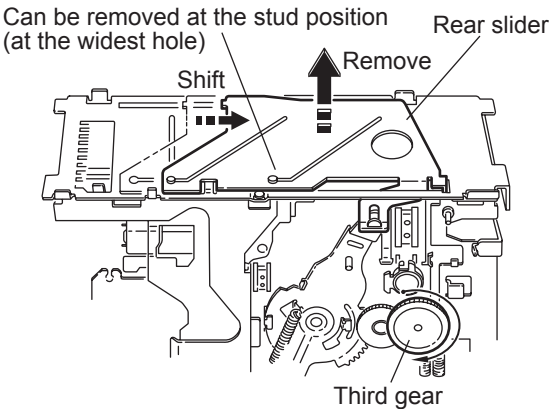

Fig.4
**(See Fig.4)**
- (1) Position the unit with the front section facing down. Rotate the third gear located on the back of the main unit in the direction of the arrow (clockwise).
- (2) Shift the rear slider in the direction of the arrow and remove it at the rear slider mounting position (at the widest hole).